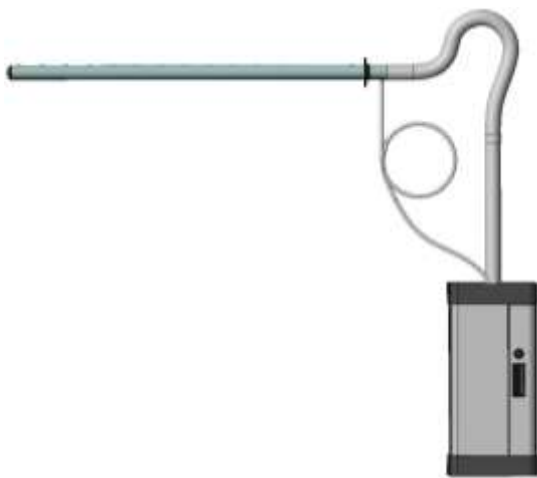
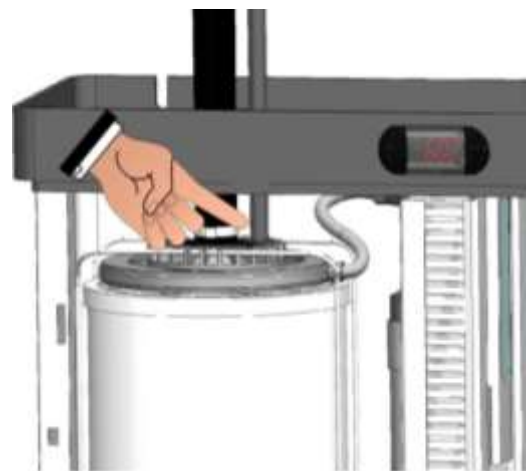

Fig.44
Fig. 45
2. If the distributor is positioned higher than the humidifier and the steam tube generates a siphon (e.g. Fig. 44), the condensate recovery must be installed, directly discharging in appropriate cylinder sleeve of the humidifier (Fig. 45) or in a water collection well. The condensate recovery is made connecting the 10mm sleeve of the distributor to the PEGO UNITUBODN10 tube for this type of application. In the path of the condensate recovery tube from distributor to humidifier or from distributor to well, a siphon must be made with full turn of 200mm minimum diameter; the siphon must be charged with water prior to installation. This will prevent steam exiting the condensate recovery tube (Fig. 44).